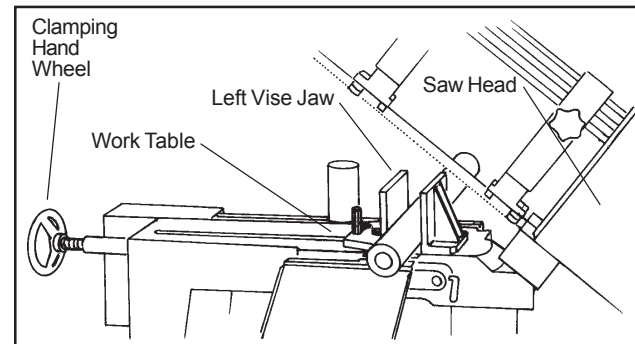
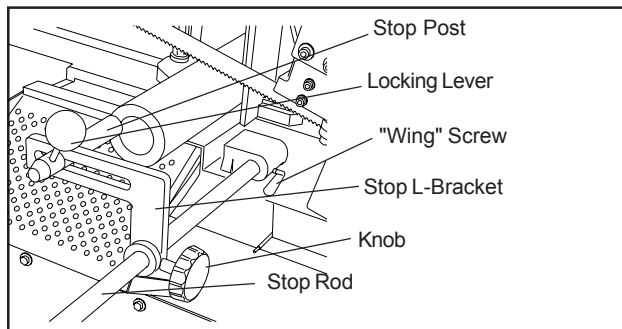

Figure 5: Securing workpiece
Figure 8: Work stop
1. Raise the saw head (refer to Figure 5).
1. Referring to Figure 5, loosen the angle locking screw and the pivot screw on the left vise jaw.
Figure 5: Securing workpieceThe work stop is used to set up the saw for making multiple cuts of the same length (see figure 8). Install and adjust the work stop as follows: